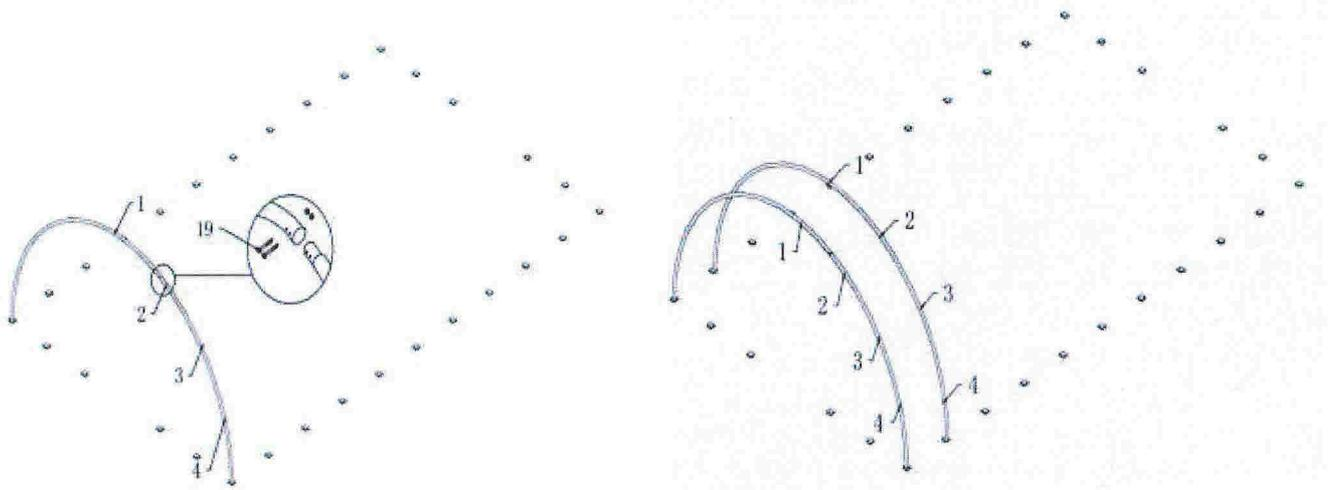

Figure 4
2. Lift an assembled arch onto one base plate and force the other end of the arch onto the opposite base plate, then install the second arch like figure 4 shown.